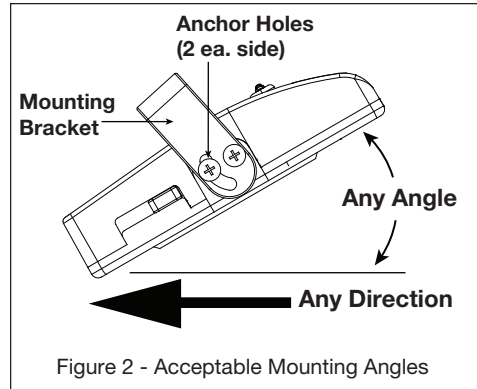
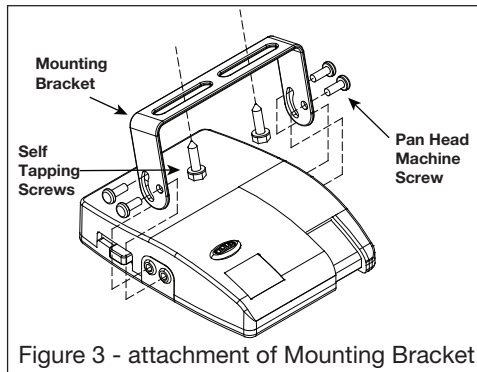

Figure 2 - Acceptable Mounting Angles
Figure 3 - attachment of Mounting Bracket
1. Install the mounting bracket to a solid surface under the tow vehicle dash or other suitable location using the two self-tapping screws and fasteners provided. Tighten until snug. See **Figure 2- Acceptable Mounting Angles and Figure 3 - Attachment of Mounting Bracket.**